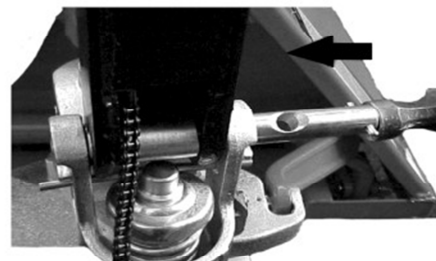

Fig. 6: Axle assembling
- Insert the tiller arm (1) into the pump piston, then use a hammer to insert the axle with hole into the hydraulic pump and tiller arm from the right to the left (Fig. 6).